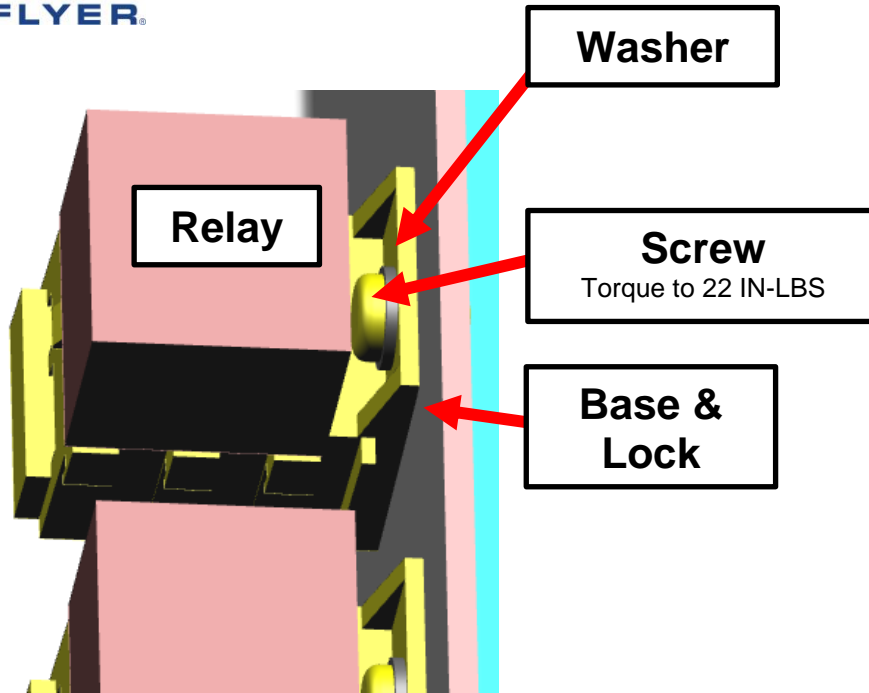
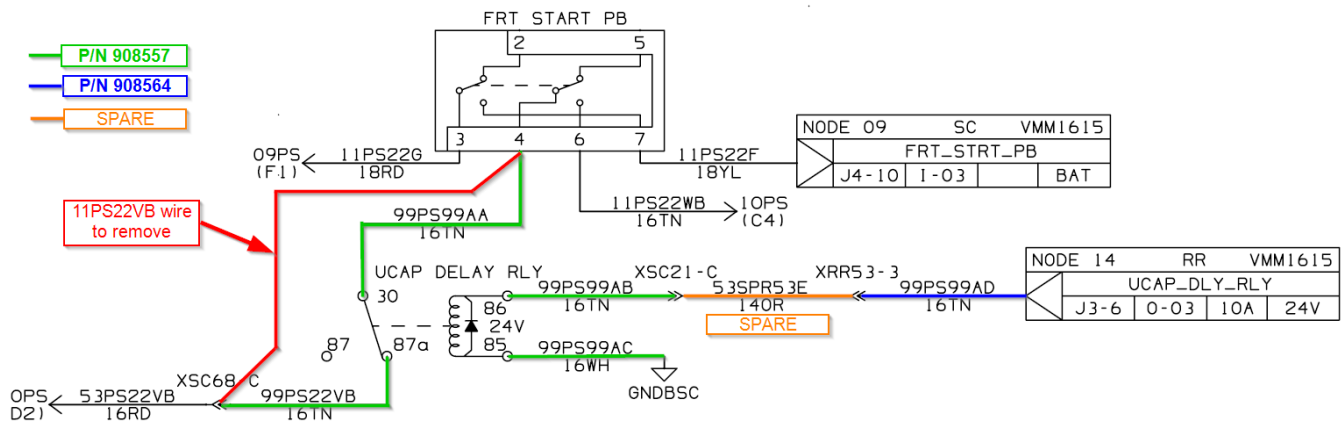

Figure 4 – Relay Installation Detail
Figure 14 – Schematic
6. Using the supplied harness P/N: 908557, route the wires to the respective locations according to the table 1 below and Figure 4. For further reference, you can also view the schematic in Figure 14.
- c. Once the battery voltage is under 24V, check if there is continuity across pins 30 and 87a of ultracap delay relay. See schematic in Figure 14. The relay is normally closed.